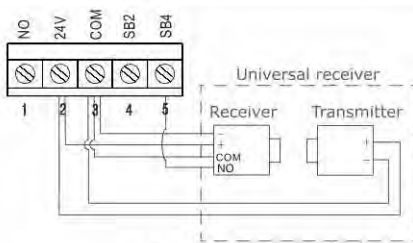

Fig 12a
- a. XTrac two wire safety beam (Fig.12a)